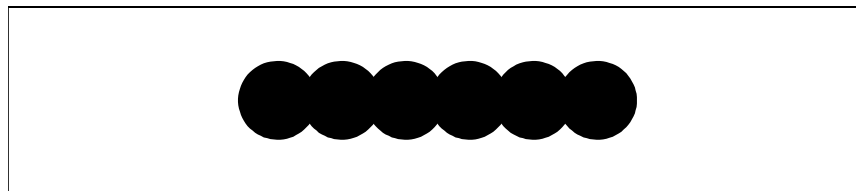

Figure 31. Normal Density Plot
Normal density plotting is selected with the odd dot plot control code ENQ (hex 05). The odd numbered dot columns are addressed to produce a vertical density that varies based on the font selected: 72 dpi vertical for Letter Gothic (DP), and 144 dpi vertical for Courier (NLQ). Figure 31 illustrates normal density dot plot.